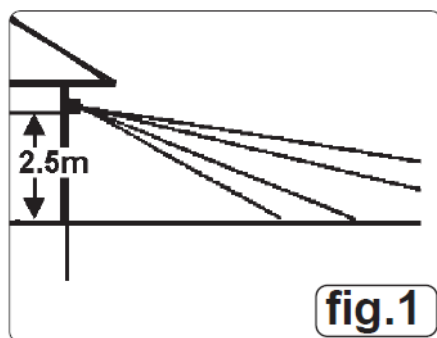
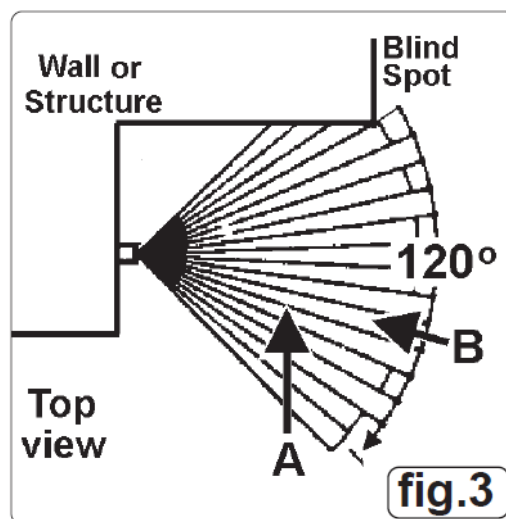

fig.1
fig.3
- An approximate appropriate mounting height from the ground is 2.5m. See fig.1.
- The sensor may be angled independently of the light. Mounted at approximately 2.5m above the ground the sensor will have approx 12m range (fig.1) with a 120° spread (fig.3)
- Further adjustment may be made by tuning the three switches located on the underside of the sensor as follows: (fig.3).